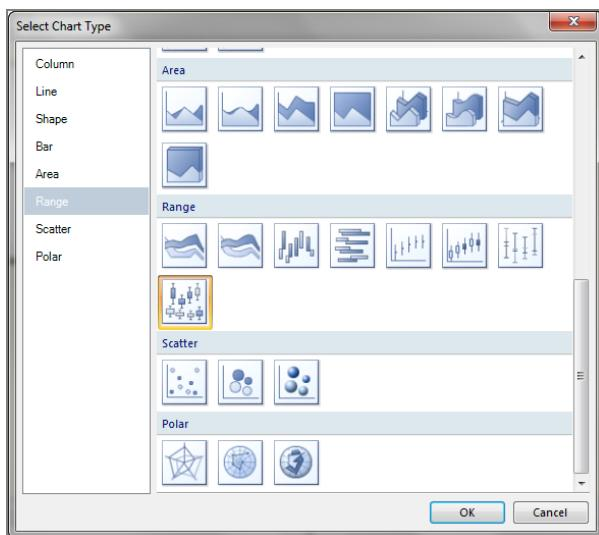

Figure 13-2
2. In the Select Chart Type dialog, select the box plot type from the Range chart category (shown in Figure 13-2).